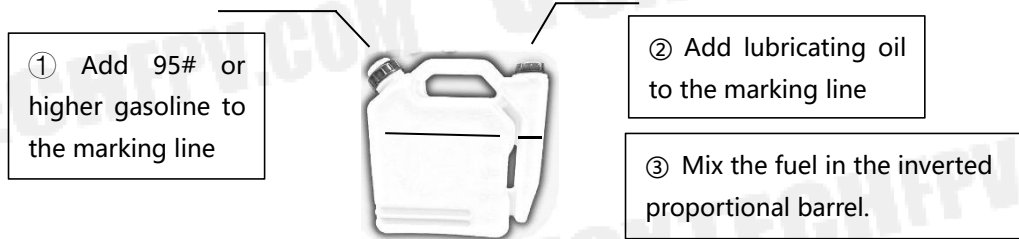

Fig. 7
3.3 The oil pump installation and oil pipe connection are shown in Figure 7 below:
The specific preparation steps are shown in Figure 7 below.